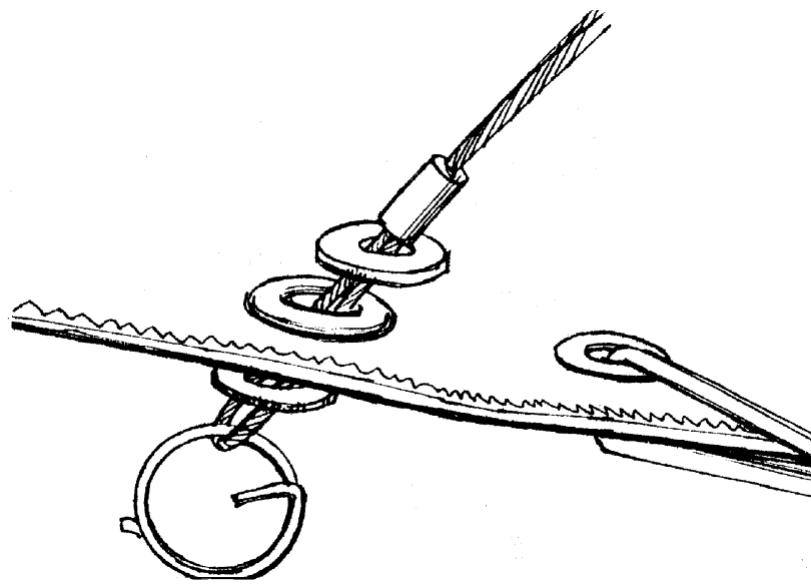

Fig. 19
2.1.21. Put the short luff lines through the grommet which is free from the batten tension leech line and which is near the 2-nd batten pocket from the keel. Fit the washers and the safety ring over the wire loop (Fig. 19).
2.2.5. Remove the protective bag from the rear section of the keel tube. Attach the hook of the top rear wire and the luff lines to the thimble of the top front wire (see Fig. 19). Make sure that the hook for the wires is not inverted and the luff lines are not twisted.